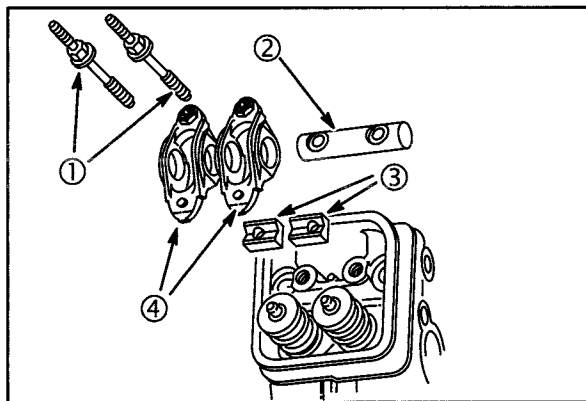

Fig. 12
**NOTE:** Rocker shaft support (3) holes are offset. Install with holes facing ends of rocker shaft, **Fig. 12**.
1. Lubricate rocker arms (4) and shaft (2) with clean engine oil.
2. Assemble rocker arms, shaft, supports and studs (1) and install on cylinder head, **Fig. 12**.